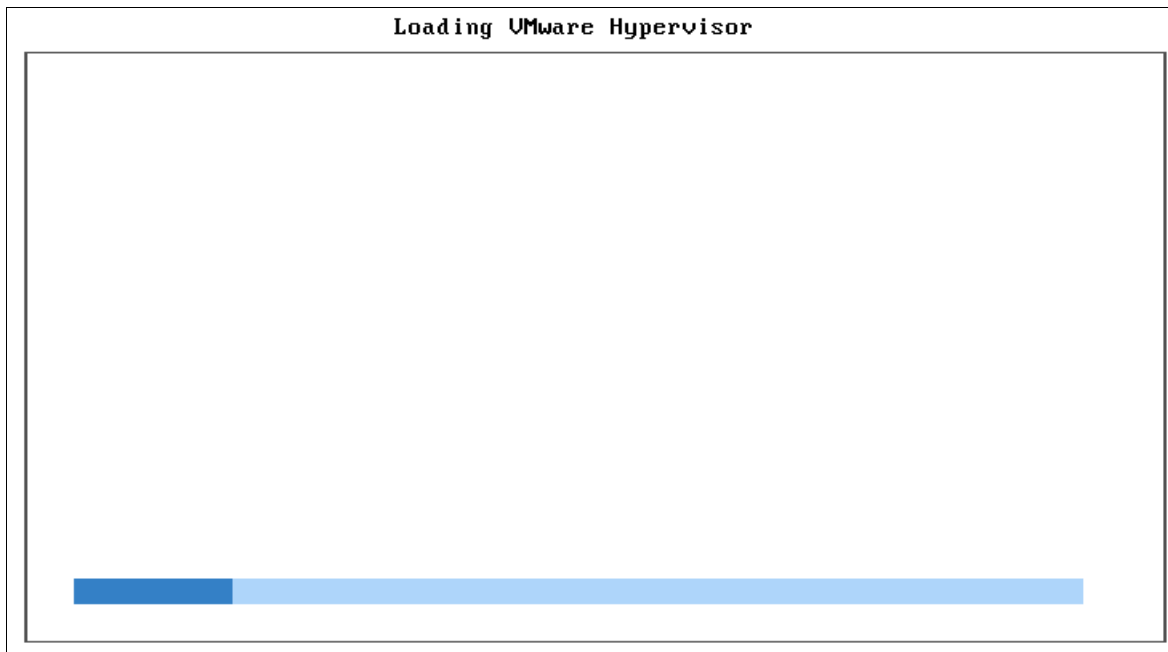

Figure 6-78 Loading VMware Hypervisor panel
1. In the Loading VMware Hypervisor panel, press Shift+O when the progress bar is displayed, as shown in Figure 6-78.